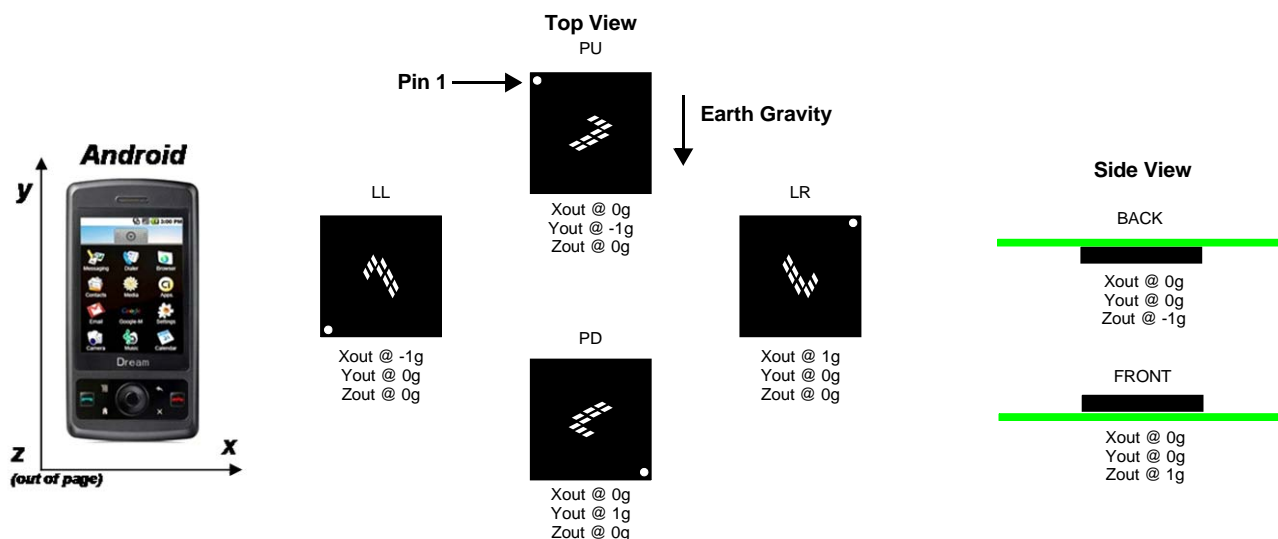

Figure 2. Orientation Definition of MMA8452Q
The 3-axis acceleration values are read from the accelerometer sensor, assuming that the sensor’s 3-axis direction complies with the system coordinate. However in an actual product, different sensor chips could be used, or the mounting directions could be different, so that the data direction differs. Figure 2 shows the orientation definition of Freescale’s MMA8452Q 3-axis accelerometer.
From Figure 2, we can see that the chip must be mounted with pin 1 at right-down position (PD), and mounted on the front of the PCB, in order to align with the default position of the Android Coordinate System. By doing this, the user ensures that the data direction complies with the system's coordinate definition. In any other cases, the data will not comply with the system definition and the direction of the data needs to be changed. In some cases, the X and Y-axis must be swapped or both direction changing and X-Y swapping are needed.